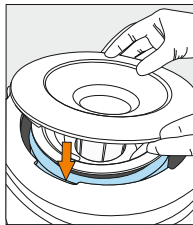
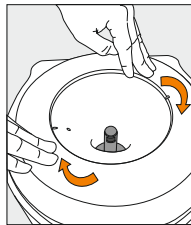

Figure 41
Figure 42
3. Install the Outer DryGuard™ Cover onto the cooler in the proper position on the body (Figure 41) and lock into place by turning clockwise until it fits tightly (Figure 42).